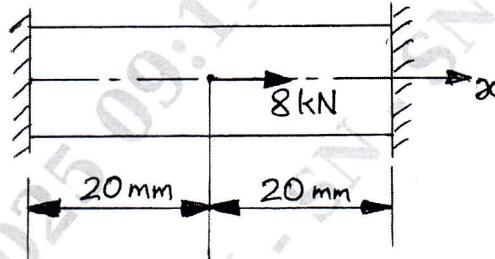

Fig.Q.2(b)
b. Use Rayleigh-Ritz method to find stress at mid point of a bar shown in the Fig.Q.2(b). Take  $E = 70 \text{ GPa}$ ,  $A = 100 \text{ mm}^2$ . Assume the displacement model to be a second order polynomial. (14 Marks)